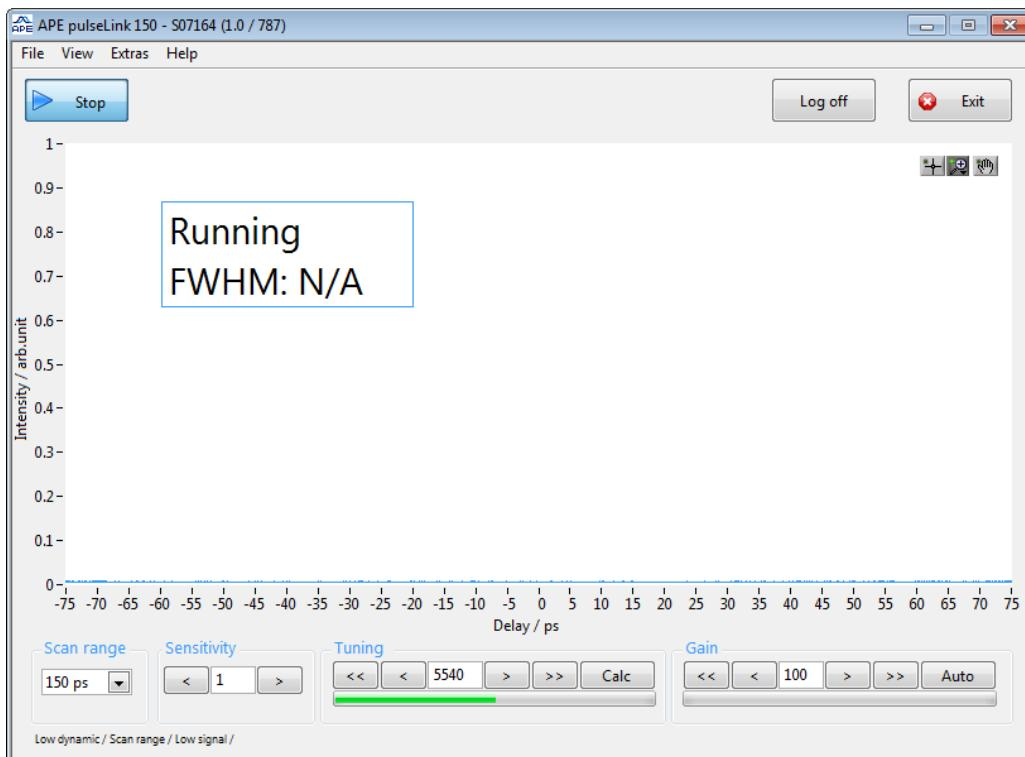

Figure 5.5.: By pressing the "Start" button the linear scanner motor starts running
1. With established communication (see Section 5.1), press the "Start" button to get the scanner motor running (see Figure 5.5).